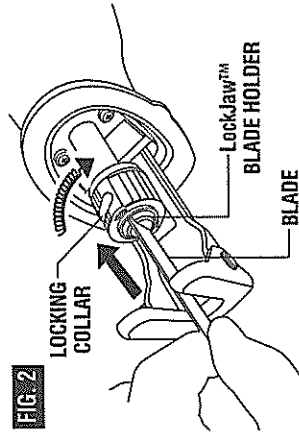
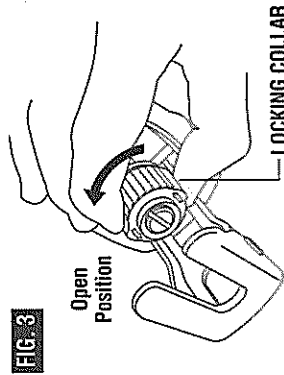

FIG. 2
FIG. 3
1. Insert the blade into the LockJaw™ blade holder until the locking collar automatically rotates clockwise and locks the blade in place (Fig. 2). **Note:** if the blade will not lock automatically, rotate the locking collar counter-clockwise until it clicks and locks in the open position (Fig. 3).